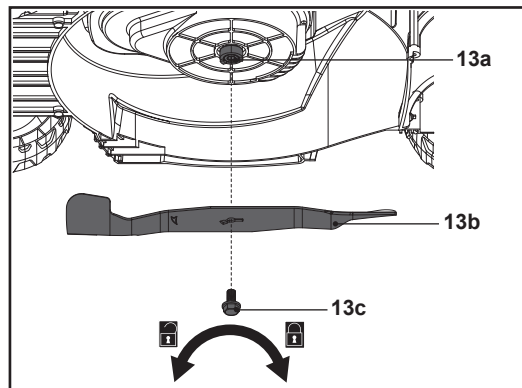

Fig. 16
1. Keep the underbody and cutting blade (13b) clean and free of debris. Remove clippings from the rear discharge chute (20).
5. Replace the cutting blade (13b) with a new one of the same type. Check the status of blade holder (13a) onto the spindle firstly, then attach the cutting blade (13b) to the blade holder (13a) by aligning it with the patterns on the blade holder (13a), fit the hex bolt with washers (13c) properly to secure the connection. Tighten the hex bolt (13c) clockwise with 25 Nm min, 30 Nm max. to ensure safe operation of your product (Fig. 16).